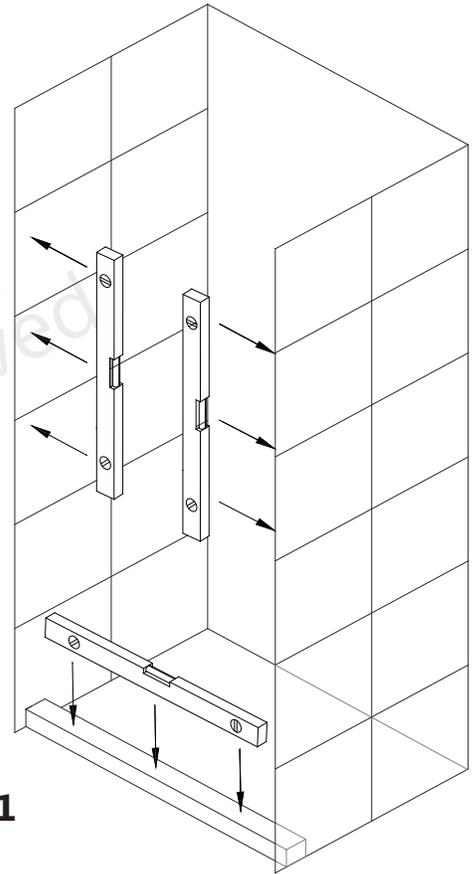

Fig 1
1. Measure the finished opening width at the top (at model height), middle and bottom. Check the threshold for level and the walls for plumb. **(Fig 1)**